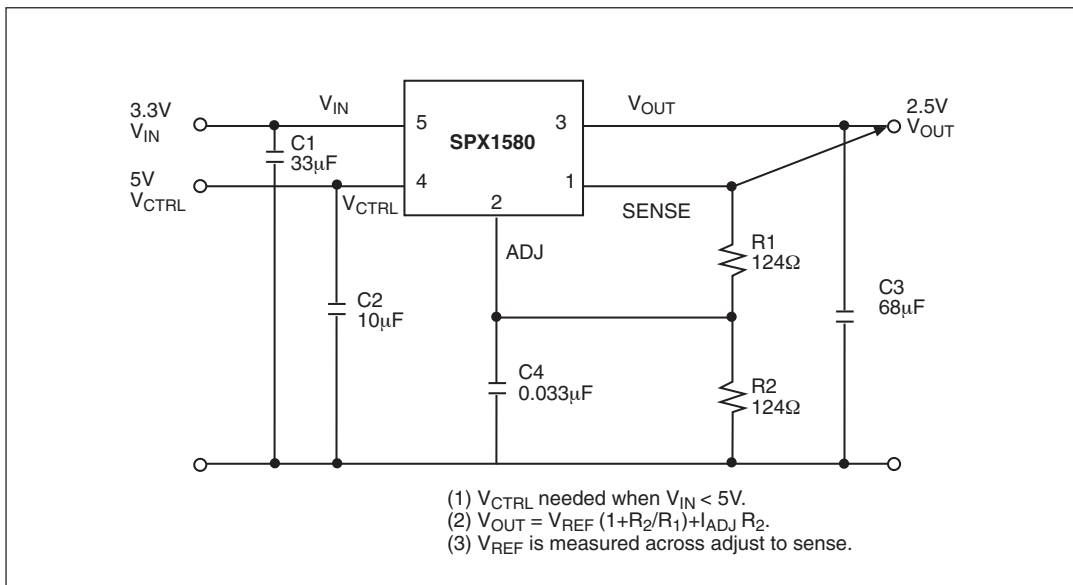

Figure 1. Adjustable Regulator.
1.25V reference voltage is being developed between the SENSE pin and the ADJ pin of the SPX1580. Adding two external resistors (see fig 1.) will allow setting the output voltage from 1.25V to 6V. R1 is chosen so that this current is specified minimum load current of 10mA. R2 is given by the formula:  $V_{OUT} = V_{REF} (1 + R_2/R_1) + I_{ADJ} R_2$ . The current flowing from the ADJ pin is typically 50uA. This ADJ pin contributes to the final VOUT but is usually neglected. Connecting the sense pin to the top of the resistor divider will improve load regulation.